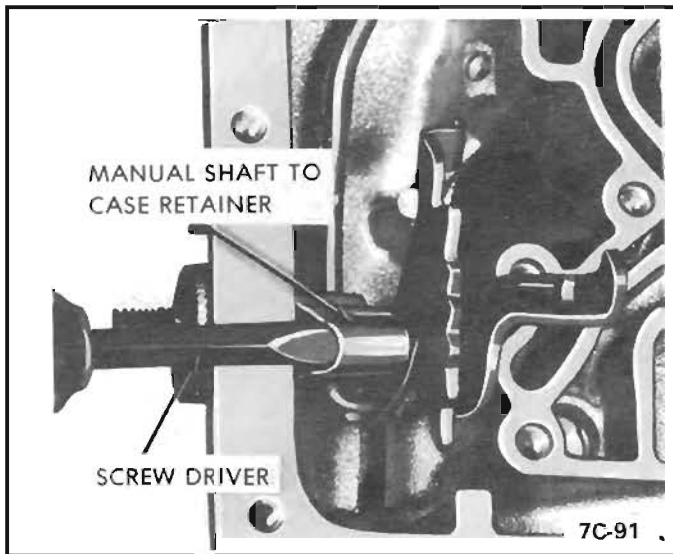

Figure 20 Manual Shaft Retainer Removal
15. Remove manual shaft retaining clip with screwdriver and slide manual shaft outward. This will allow the control valve "S" link to be removed. *See Figure 20.*
See Figure 20.